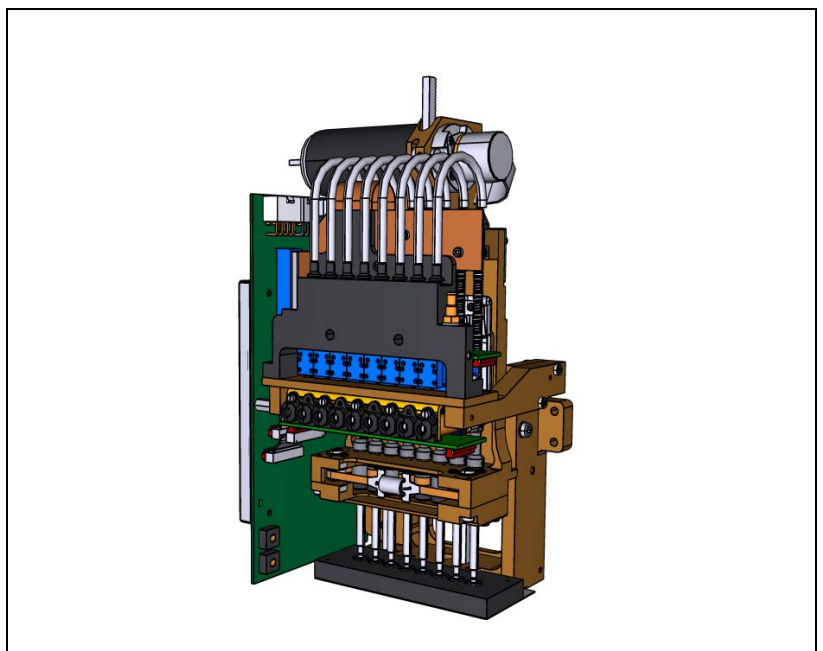

Figure 6-3. HYDRA unit.
The MY100 series of machines are equipped with the following three types of mount heads. There are two different versions of the Midas mount head, Midas and Midas II (see Figure 6-1 and 6-2). There is also the HYDRA unit, which is a multiple mount head with eight mount tools (See Figure 6-3). Descriptions of these mount heads can be found in this Chapter.
- *HYDRA Mount Head* on page 6-14. The HYDRA unit is a multiple mount head with eight mount tools (See Figure 6-3).